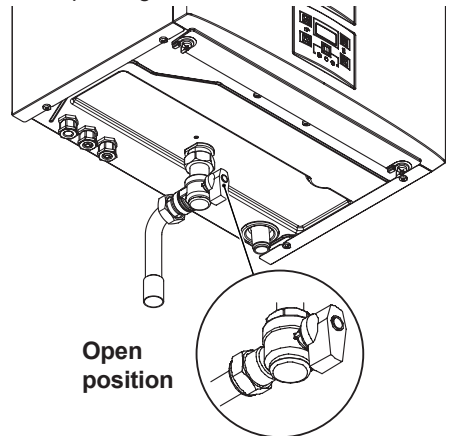

Fig. 2.1
- Check that the gas supply cock located in the lower part of the boiler and the valves are open Fig. 2.1.